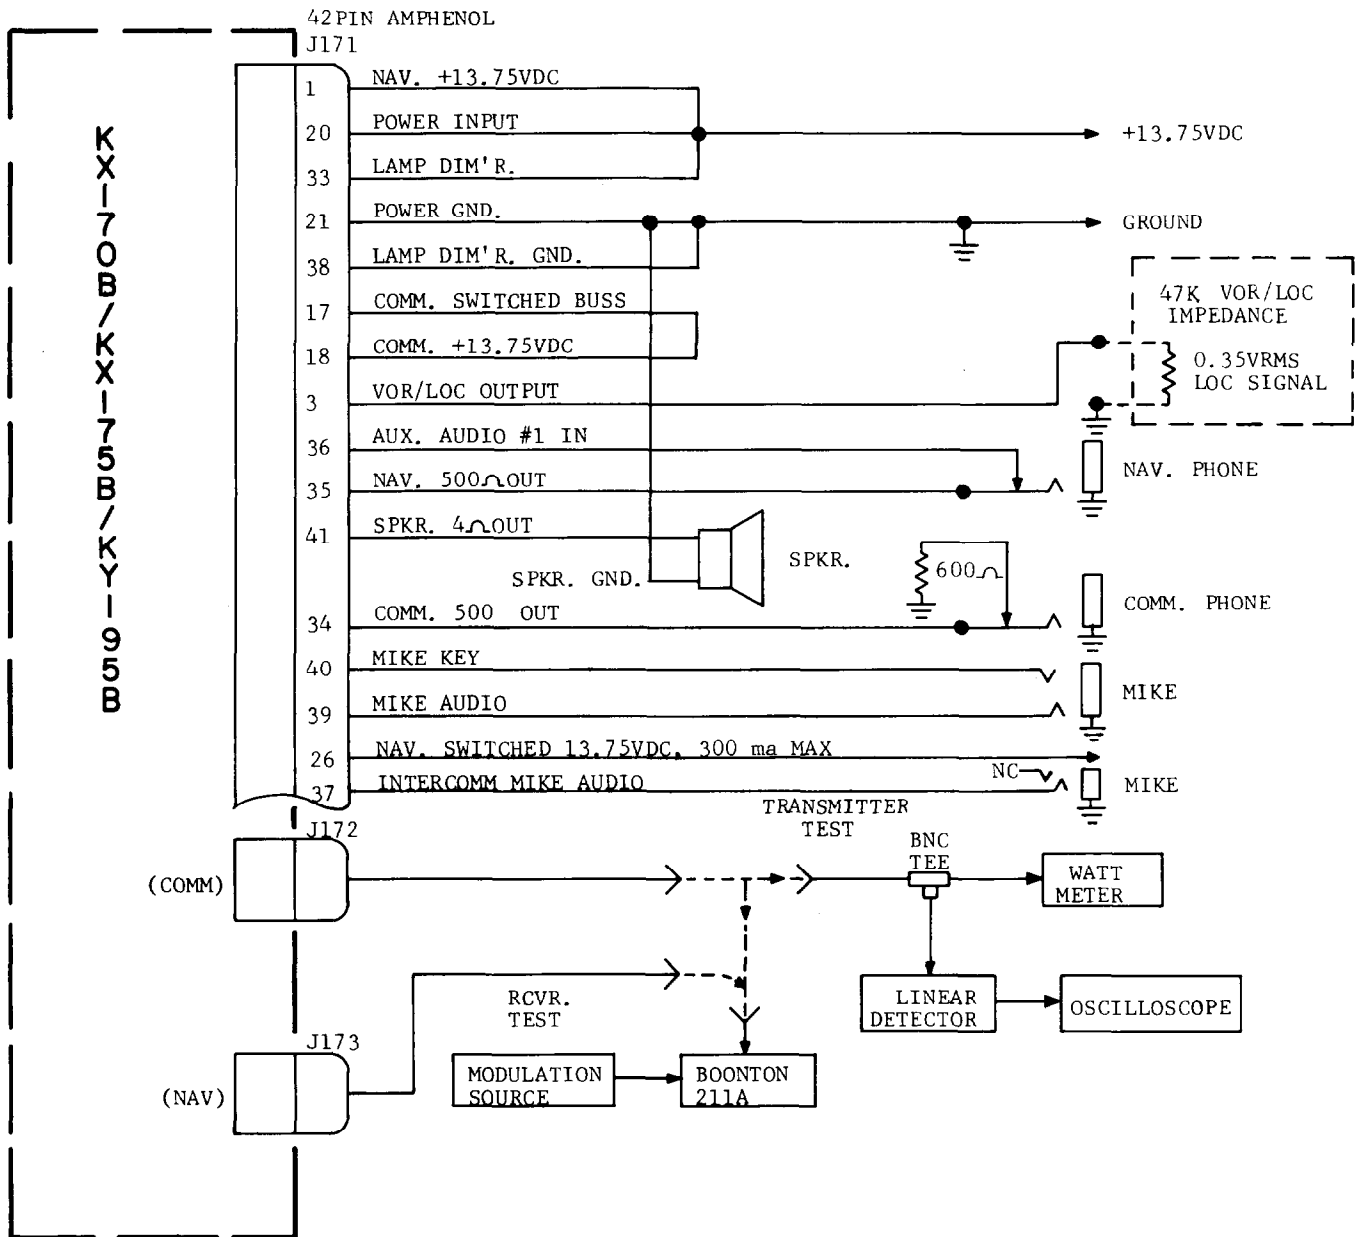

FIGURE 5-8 KX 170B/KX 175B BENCH TEST SETUP
- c. Connect the bench test set for COMM transmitter tests (Figure 5-8) and apply 13.75 volts.